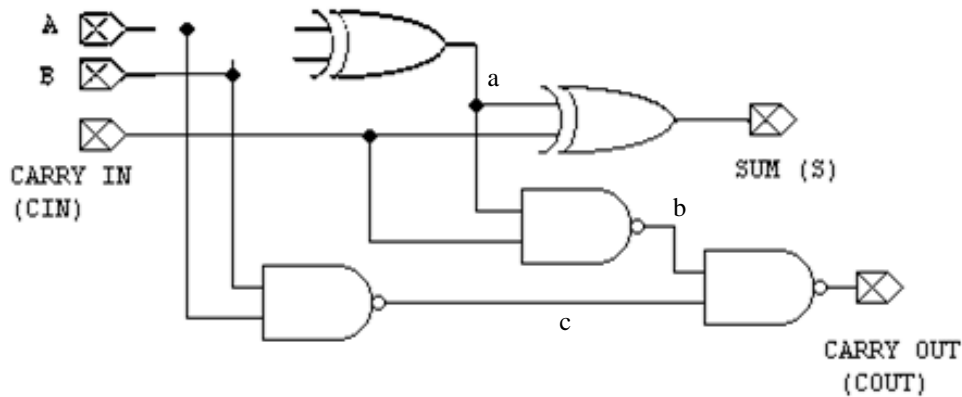

Figure 3. Full adder logic circuit. The truth table is given in Table 4.
The corresponding logic circuit is shown in Fig. 3. The rules of Boolean algebra have been used to reduce the carry-out part of the circuit to the minimum number of logic gates, but it can be proven equivalent to Eq. 4.
- (a) Construct the circuit shown in Fig. 3 using INTERACTIVE\_DIGITAL\_CONSTANT parts for the inputs and Probe parts to display the Sum and Carry Out. Include the schematic in your Pre-lab.